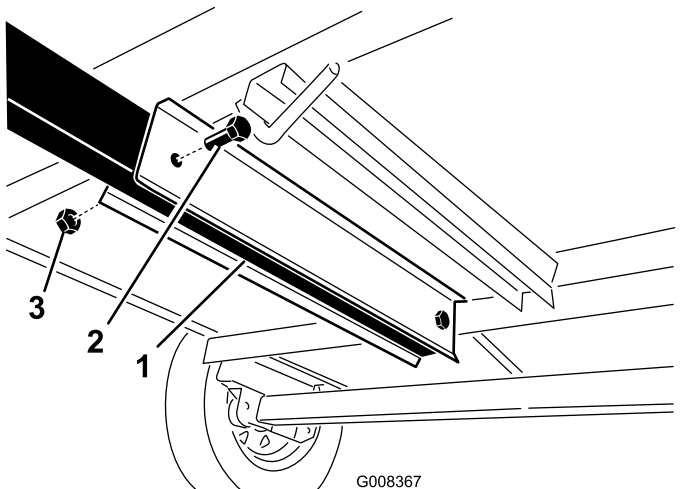

Figure 6
9. Secure the bolts with 2 nuts (5/8 inch) (Figure 6). Torque the nuts to 103-135 N·m (76-100 ft-lb).